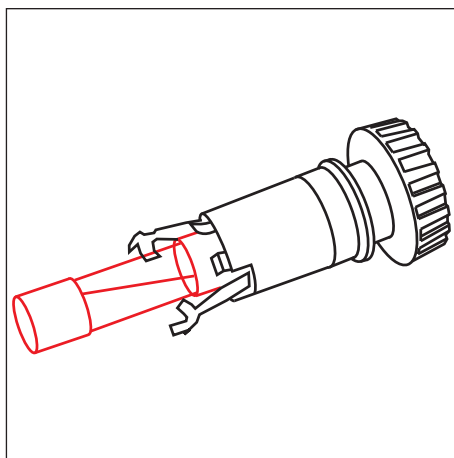

Fig. 43. The fuse is held captive in the lid.
4. Place the tested or replaced fuse in the lid as shown in *Fig. 43*.